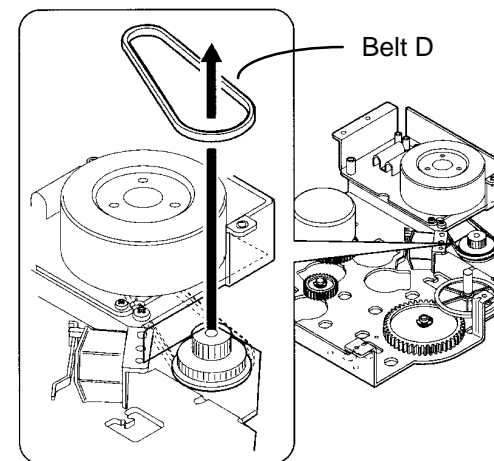

Figure 3. Removing Developer Drive Belt D
5. (Figure 3): Remove Developer Drive Belt D.